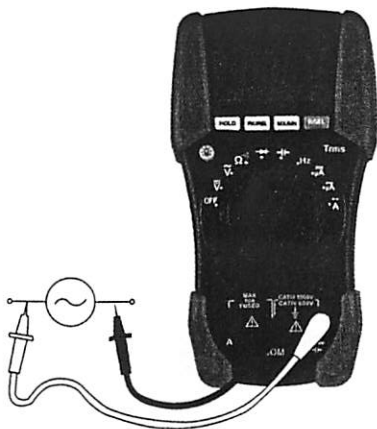

Fig. 9: Operation for Frequency measurement
2. Insert test leads into the jacks, red for  $\text{HzV}\Omega\mu\text{A}$  jack and black for **COM** jack (see Fig. 9).